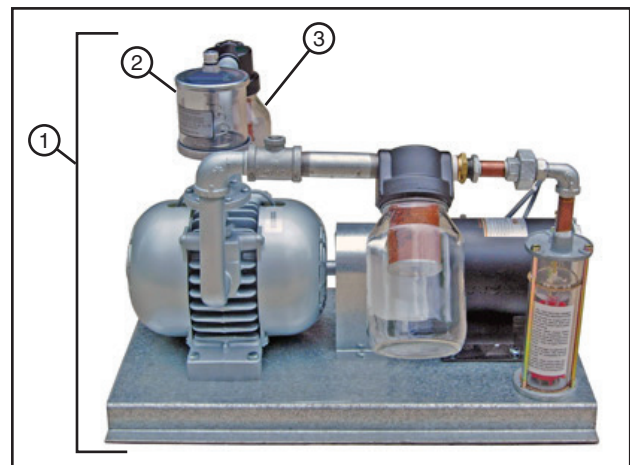

Figure 101-3 1. Electric primer pump
- The Vacuum Pump requires occasional flushing. Remove the pressure gauge and run 1/4 cup of flushing solvent (GAST AH225 or equivalent) through the pump. See figure 101-3.
- LUBRICATION: The automatic bearing oiler should be refilled as needed with a high detergent automotive engine oil with a viscosity equivalent to SAE 10W or less. See figure 101-3.
- AIR FILTER: Clean the air filter regularly. Remove air filter from its holder and wash thoroughly in solvent and let dry completely, then re-install air filter in its holder. Replace air filter every year. See figure 101-3.